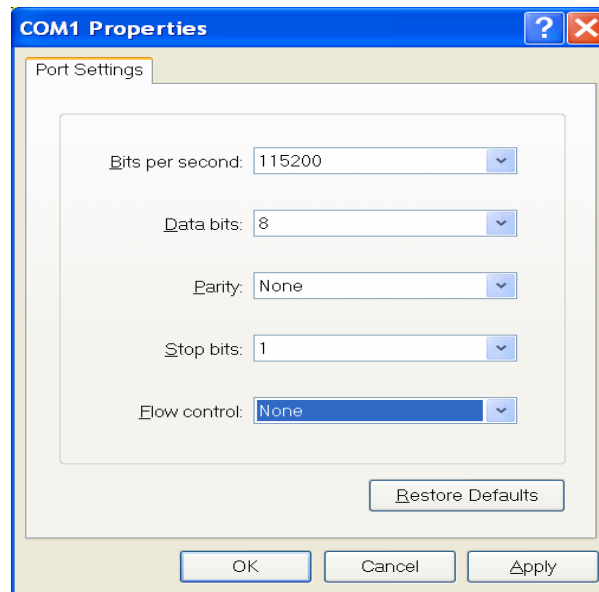

Figure 1-4
4. Figure 1-4 appears. Select suitable parameters, baud rate is 115200, others are shown in the figure.
6. Click the button 'OK' in figure 1-4, it will show as follow: